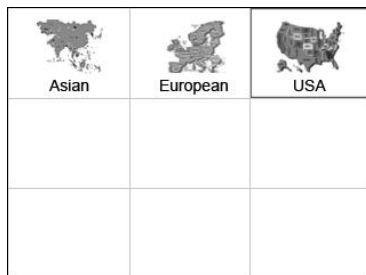

Figure 3.1
- 2) Select a specific vehicle manufacture's regional coverage. (Figure 3.1)